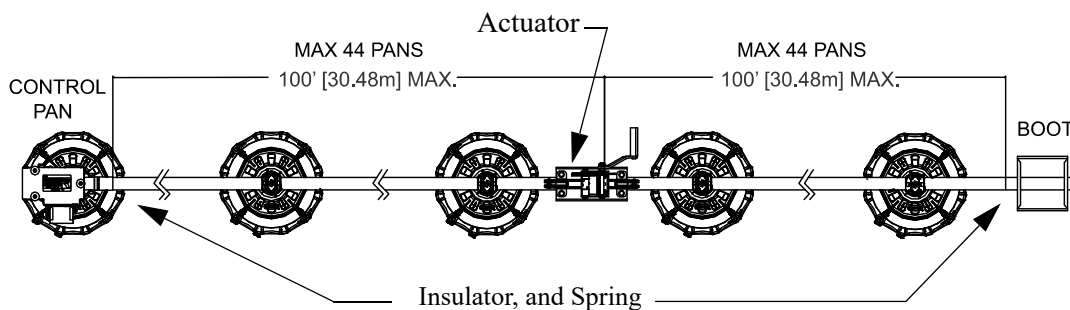
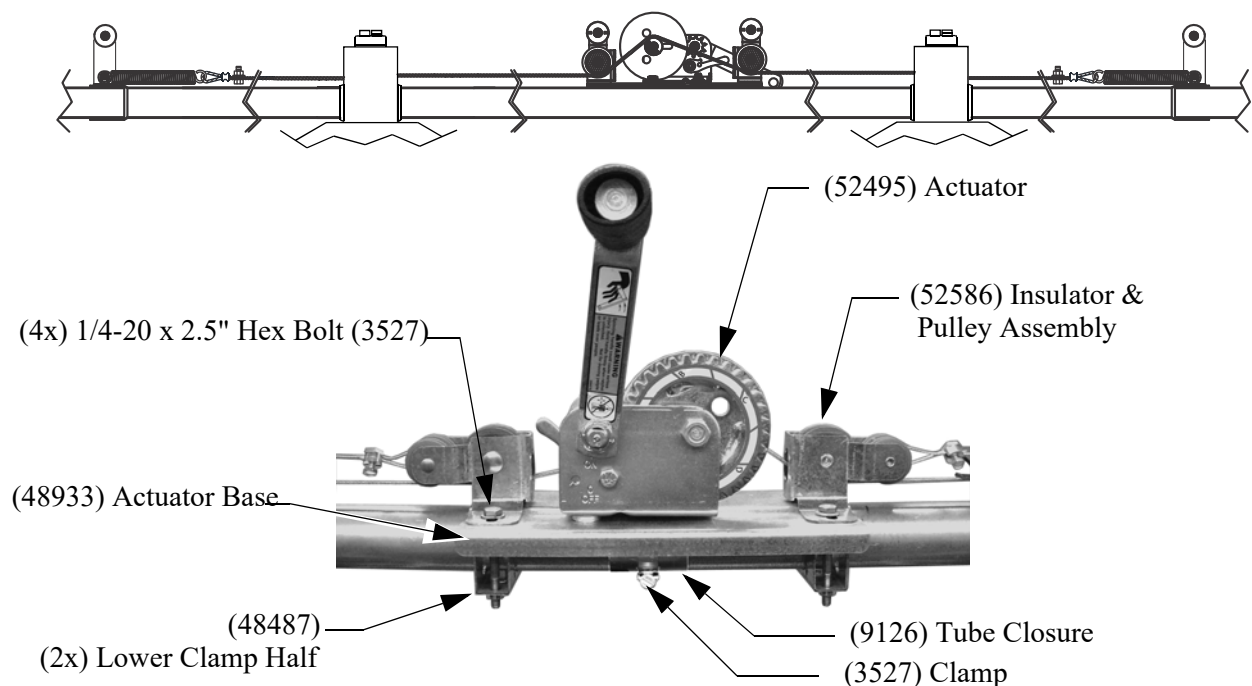

Figure 43. Actuator Planning
Figure 44. Actuator Installation
**Figure 43** below shows how to locate the Actuator, Insulator and Springs. Divide up the feeder line length in segments not to exceed 200 ft [60.96m]. Locate the actuator in the center of each segment. max length 100 ft [30.48m] in each direction
Attach the Actuator in the Middle of the system (**Figure 43**) It may be necessary to remove a Pan to install the Actuator. Use a Tube Closure (9126) and Band Clamp (3527) to cover the outlet hole where Pans are removed. Mount the winch using the Lower Clamp Half (48487) and 1/4-20 x 2.5" Bolts (4404-4) included in the Actuator Kit. See **Figure 44**